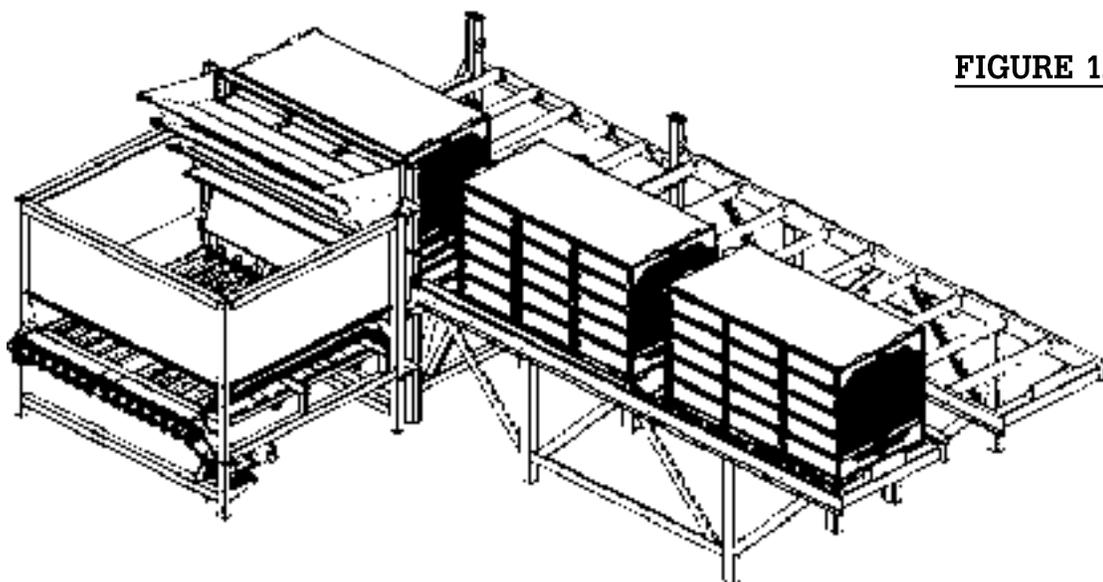

FIGURE 12
11. Wait about 10 to 15 seconds and push the third (DUMPER TILT) hydraulic lever and hold it until the cradle cylinders are fully retracted. The cylinders are fully retracted when the cradle stops tilting downward. Then release the lever. (See Figure 12)